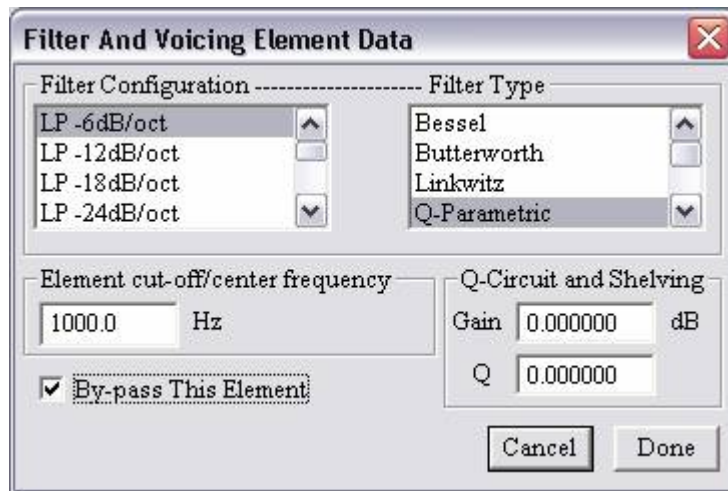

Figure 127. Bypassing an element.
- Initially the voicing elements will be bypassed. This is accomplished by opening each element and checking Bypass The Element, Figure 127.